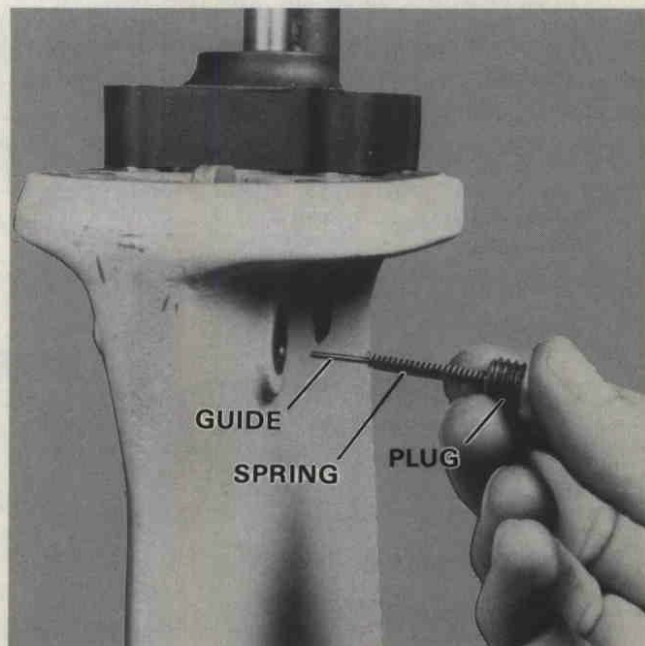

Figure 53. Removing Shift Detent Assembly.
- C. Remove plug, shift detent spring and shift detent guide from upper gear housing. Figure 53.